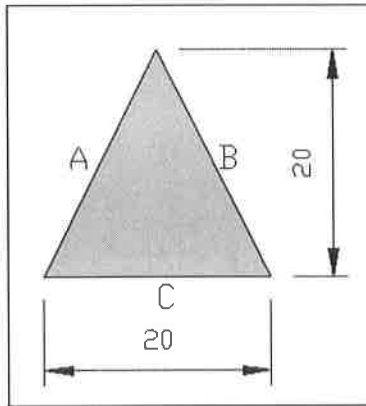

Figure 1: Triangle Shape
- b) Determine the tonnage that is needed to punch triangle shape in **Figure 1** on a mild steel plate with a thickness of 5 mm and a shearing strength of 40 kg/mm². Show your calculations.